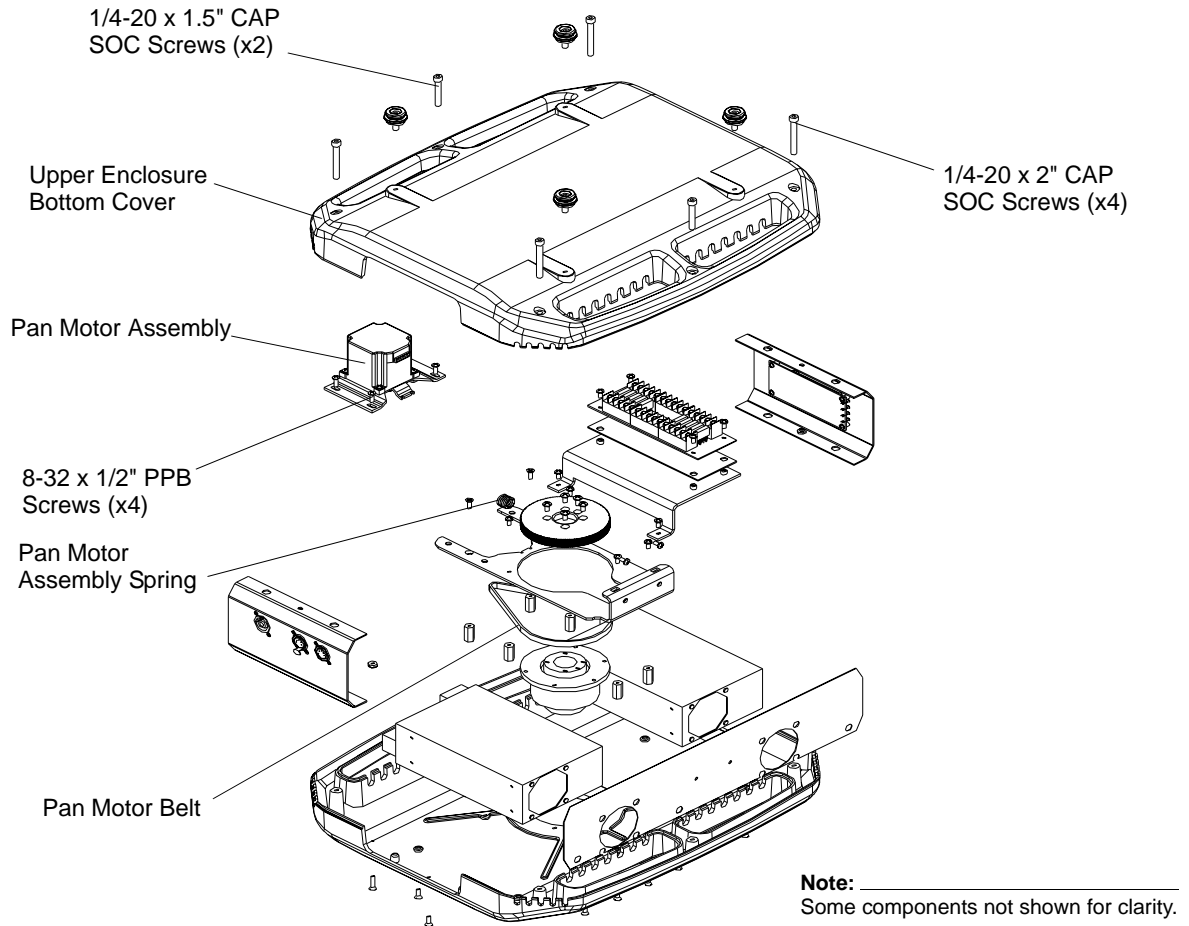

Figure 2-62: VLX Wash Pan Motor Belt
- Step 3. Using 3/16" hex wrench and as indicated in Figure 2-62, remove four 1/4-20 x 2" CAP SOC screws and two 1/4-20 x 1.5" CAP SOC screws and remove base cover.
- Step 2. Carefully lay luminaire on flat, steady surface to have access to bottom cover of upper enclosure. Rotate head as shown in Figure 2-62.